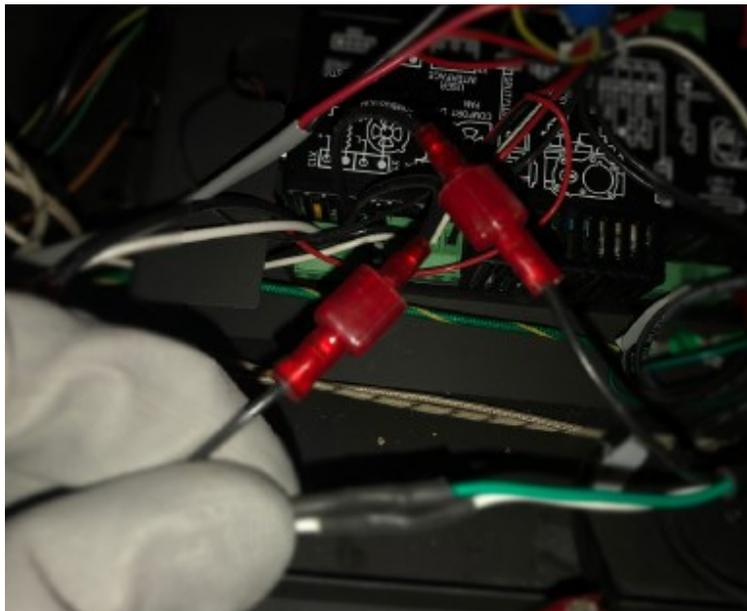

Figure 6.17 - Wire Harness - Quick Connection to Black Leads
4. Now we will connect the power vent wire harness to the control module and fireplace wire harness. The power vent wire harness has the black hot wire split with two female quick connections on either end. Plugs these into the black leads that have quick connections coming off the control module in the X12 combustion blower location. See Figure 6.17.